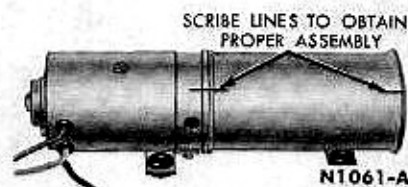

FIG. 1—Reservoir Marked Before Disassembly
2. Scribe lines on the reservoir, pump body, and reservoir cover so that these parts can be assembled properly (Fig. 1).
bolt, and install the reservoir and cover on the valve body, using the lines previously scribed as guides (Fig. 1). The embossed lines in the cover must be positioned as in Fig. 3.